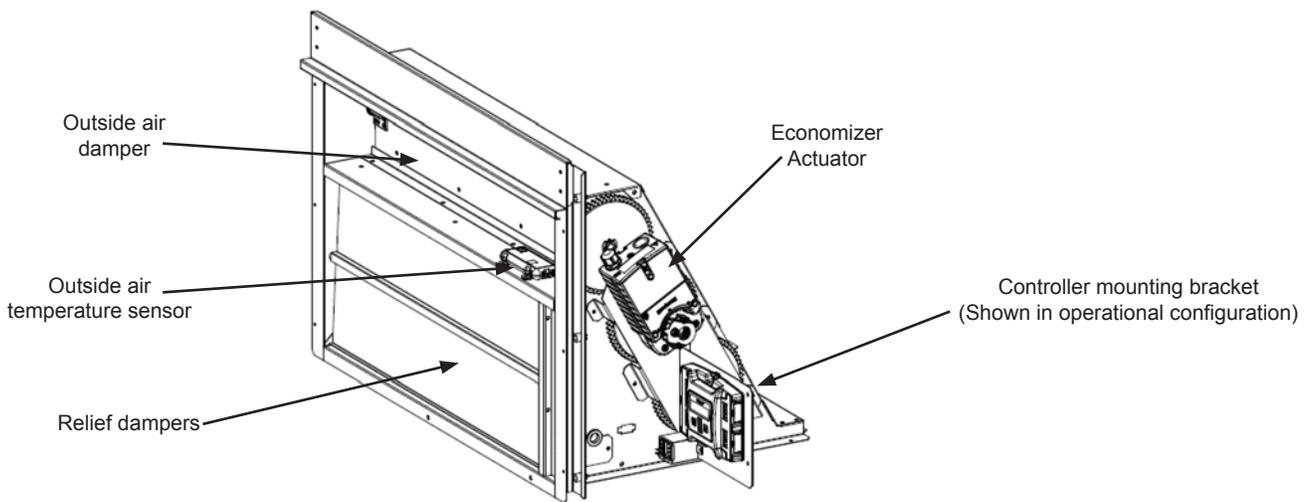

Figure 4
3. Remove two screws that hold the controller mounting bracket and turn controller bracket from its shipping position 90° so the display faces the installer once economizer is installed in unit. See Figure 4.